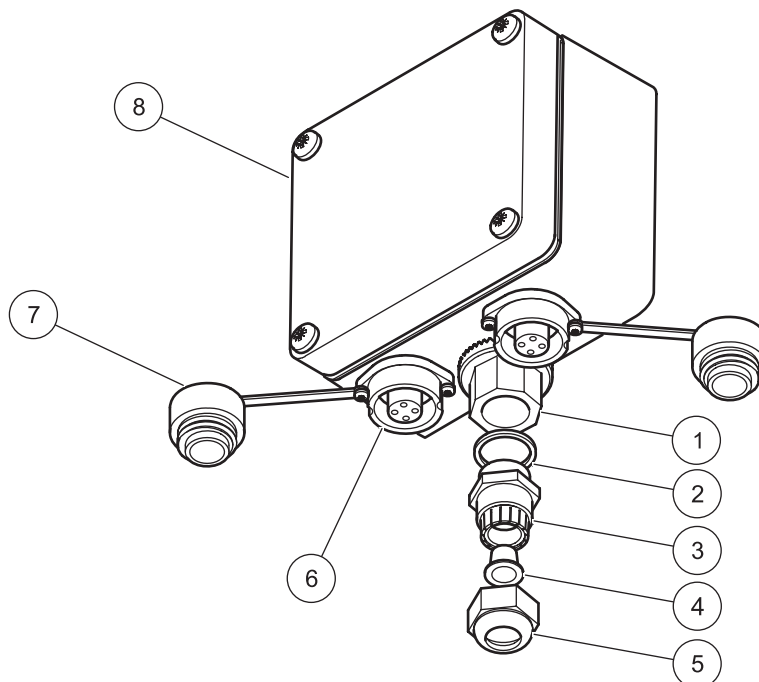

Figure 6 Cable connections
Refer to Figure 6 on page 6 and the following steps for proper wiring:
15. If wiring with a power cord, tighten the nut to the cable feed-through (item 3, Figure 6) to secure the cord in the strain relief. Do not pull the interior power cord wires tight (leave a small service loop).